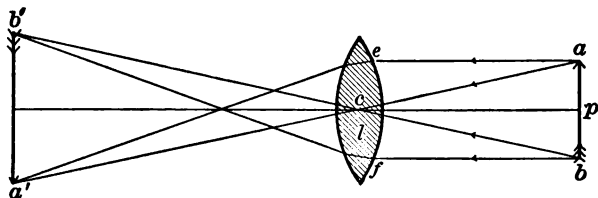

FIG. 165
**233. How Images are formed.**— Fig. 165 may show how images are formed through a convex lens. Let  $ab$  be the object and  $l$  the lens. It must be remembered that *every point of  $ab$  is sending light rays to every point of  $l$* . Let  $ac$  be one of these rays: as  $c$  is the optical